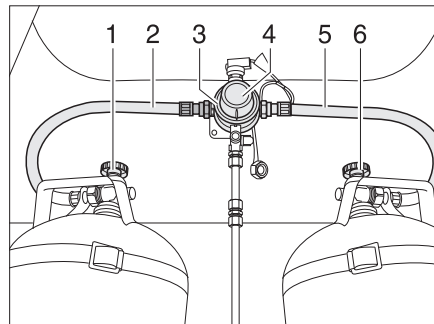
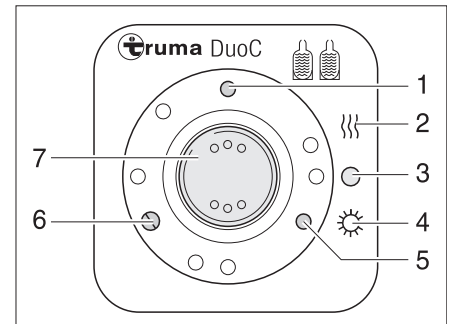

Fig. 70 DuoControl switching facility
Fig. 71 Operating unit
The DuoControl switching facility consists of a switching valve (Fig. 70,3) and the operating unit (Fig. 71). The switching valve is mounted between the gas tubes (Fig. 70,2 and 5). The knob (Fig. 70,4) on the switching valve is used to select which of the gas bottles is to be used as a primary bottle and which is to be used as a reserve bottle.
Only the electrical functions can be switched at the operating unit (Fig. 71). The regulator taps on the gas bottles (Fig. 70,1 and 6) must be opened manually.
The switching valve provides a constant gas pressure, regardless of which gas bottle is being drawn upon. The two indicator lamps on the operating unit show the filling level of the primary bottle. The primary bottle is full when the green indicator lamp (Fig. 71,6) lights up. The primary bottle is empty when the red indicator lamp (Fig. 71,5) lights up. The gas is then supplied via the reserve bottle.
- Open the regulator taps on the gas bottles (Fig. 70,1 and 6).
- Use the knob (Fig. 70,4) on the switching valve (Fig. 70,3) to select the gas bottle which is to be the primary source of gas (primary bottle). Always turn the knob as far as it will go.
- Switch on the DuoControl switching facility at the operating unit (Fig. 71). To do so, set the rocker switch (Fig. 71,7) to winter operation "On and heating" (Fig. 71,2) or to summer operation "On" (Fig. 71,4). The switching valve is now vented. The yellow indicator lamp (Fig. 71,1) lights up when winter operation has been selected and the regulator defroster is switched on.
- Set the rocker switch (Fig. 71,7) to "O" (Fig. 71,3). The yellow indicator lamp (Fig. 71,1) goes out.
- Close the regulator taps on the gas bottles (Fig. 70,1 and 6).
Remote display The indicator lamps on the operating unit (Fig. 71,5 and 6) indicate in the vehicle interior whether the primary bottle is ready for operation.
Changing gas bottles If the green indicator lamp (Fig. 71,6) goes out during operation and the red indicator lamp (Fig. 71,5) lights up, the gas bottle selected as the primary bottle is empty and has to be changed. The reserve bottle continues supplying the gas appliances with gas.